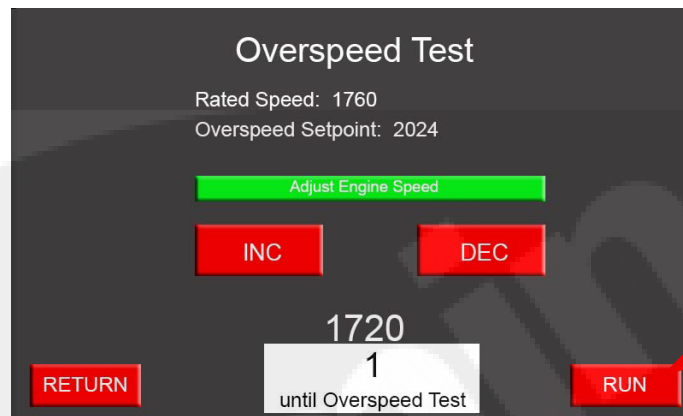

Figure 4-13 Overspeed timer
6. When the timer expires (shown in Figure 4-13), “ENGINE OVERSPEED” written in red will flash at the top of the FPDP screen.